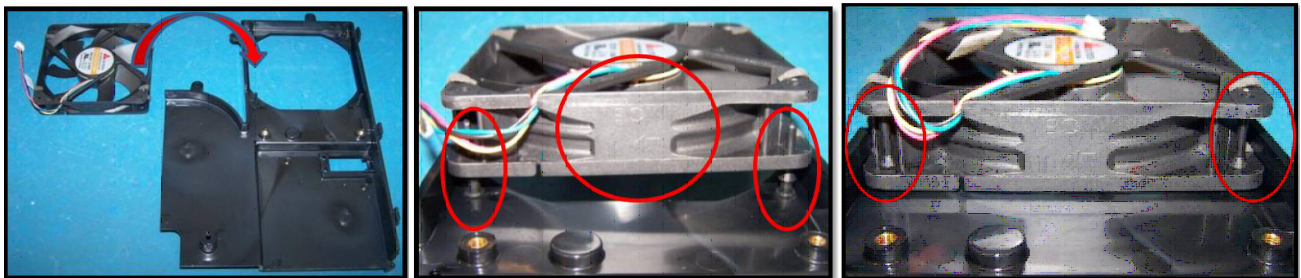

Figure 5 Install Fan into Casing
- Place Fan with Foam Pads attached in the orientation shown in Figure 5-left. (The middle duct is upside down.)
- With the center label and the arrow shown pointing up, align the 4 corner holes of the fan onto the 4 silicone mounts as shown in Figure 5-center. (Note the position of the cables.)
- Fully insert the 4 silicone mounts into the casing of the fan as shown in Figure 5-right.
- Get a Duct Main Exhaust Bottom (011-101906-03) and flip the middle duct as shown Figure 5.